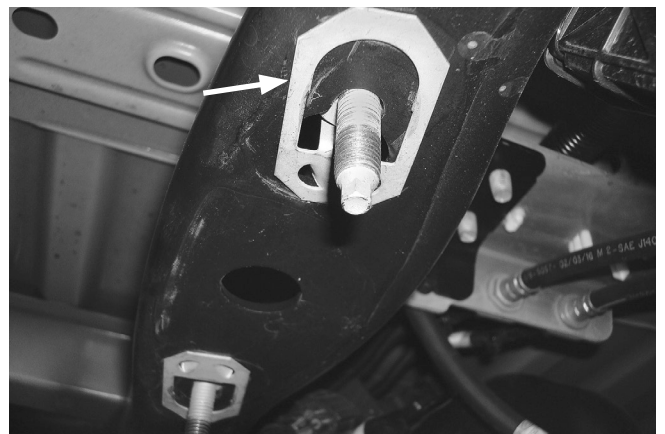

Fig. 3
2. Remove the clip-in studs by prying on the hinged end with a screwdriver to release. Pull all four clip-in studs out of the frame (Fig. 3).